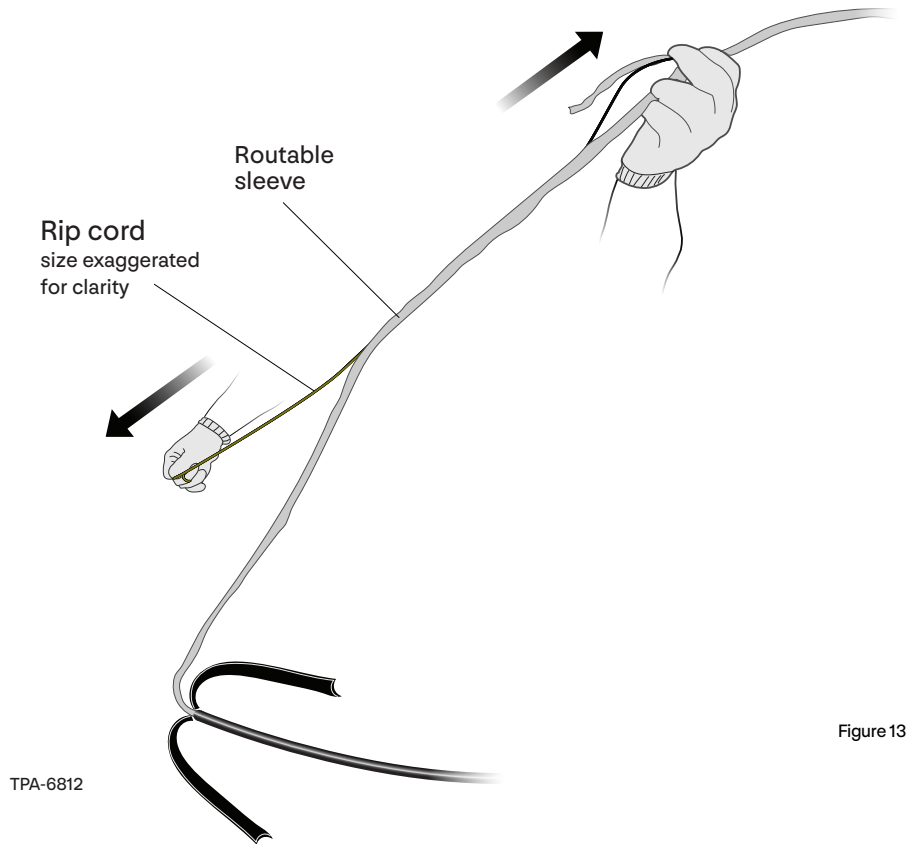

Figure 13
Step 5: Pull apart routable sleeve on one end to find the yellow rip cord. Pull rip cord to the opposite side of the mid-span cut and remove routable sleeve leaving 6 inches at each end (Figure 13).